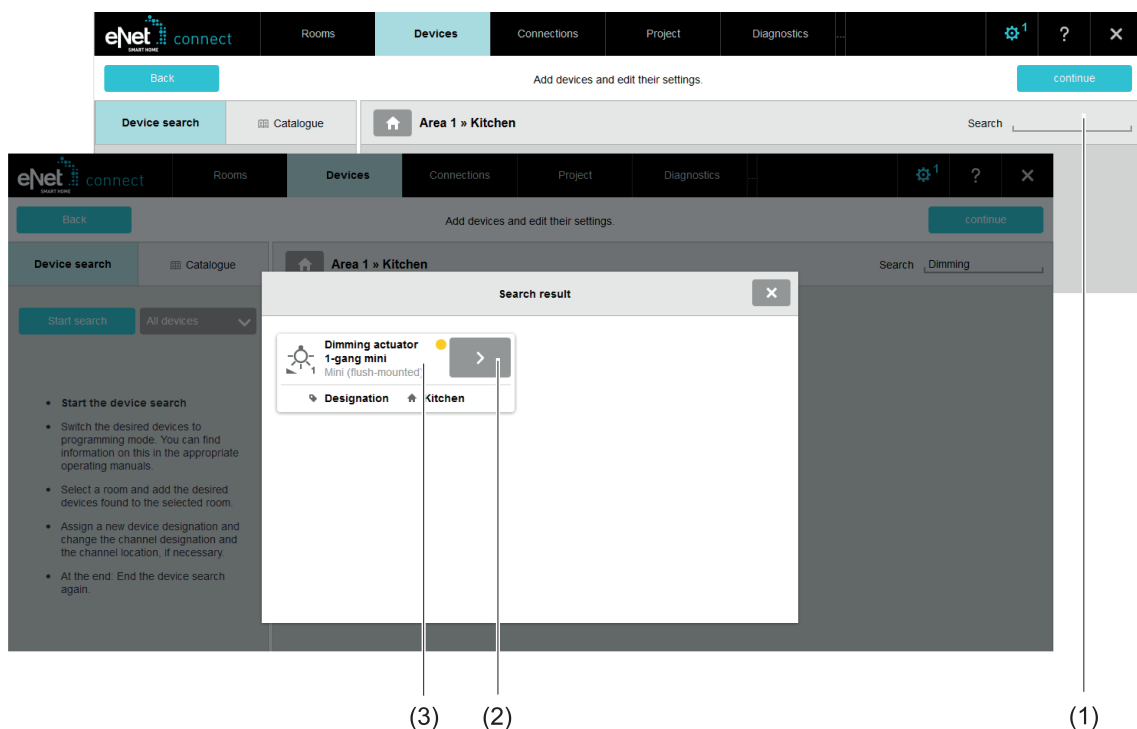

Figure 14: Search for devices in the project
- (1) Enter search criterion
- (2) Switch to the device that was found
- (3) Device that was found
- Enter search criterion (1) (Figure 14).
A window with the devices that were found is opened (Figure 14).